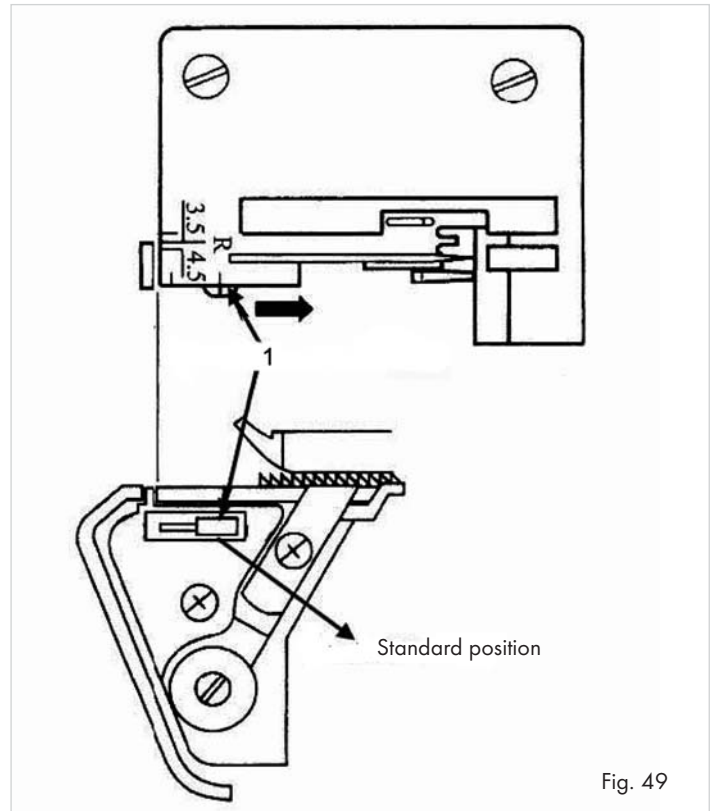

Fig. 49
- Open the front flap ⑩.
- Slide the seam width switch ②③ to "S", so that the seam width finger is pushed forward (1) (Fig. 49).
① **Note:**